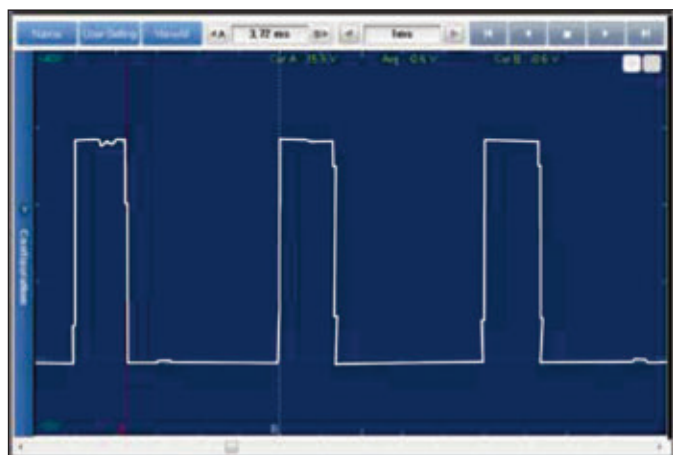
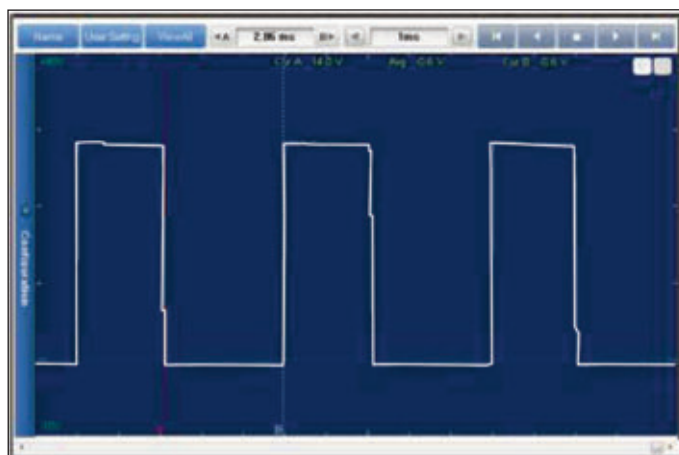

Figure 4 - The SCV duty cycle with the engine at idle
Figure 5 - The SCV duty cycle increased, to try and compensate for loss of fuel pressure, causing the engine to die.
4. Insert flywheel locking tool – OE (303-393 and 303-393-02) into starter motor opening (Figs. 4, 5 and 6).
The engine control module controls the SCV by varying the duty ratio ('on time' as a percentage of the period) the SCV is a normally open type, meaning that when disconnected it is fully open and maximum delivery is achieved and pressure is increased. The on time of the duty cycle controls the closing of the valve, so the longer the on time the lower the fuel pressure. The scope was connected to the switched ground wire; consequently the on time is when the solenoid is switched to ground. Figure 4 shows the duty ratio when the rail pressure was maintained at a normal idle pressure of 300 bars. Figure 5 shows the duty ratio commanded to increase to try and compensate for loss of fuel pressure, causing the engine to die. The two images also show the SCV control signal and the ground to be good. The SCV windings were checked for resistance and insulation and were within specification.
Remove the nearside ball joint bolts, and disconnect from its position and remove the drive shaft. Remove the front and rear gearbox mounts. Remove the bracket that secures the hydraulic pipe to the gearbox (fig 4) and remove the two bolts that hold the external slave cylinder in position, and carefully stow away from the working area.
Support the gearbox with the transmission jack. Remove the bottom starter motor bolt and three bottom bell housing bolts from the rear of the gearbox; one bell housing bolt is hidden behind a plastic cover (fig 5). Remove the remaining bell housing
Slowly rotate the tension clockwise until the pointer becomes aligned centrally between the alignment marks (fig 4). Tighten tensioner bolt to 27Nm. Press down on the non tensioned side to make sure the pointer is able to move freely. Rotate the crankshaft two turns clockwise and check that the timing marks are still aligned, and the pointer is still in the central position. If not then the tensioning procedure must be repeated.